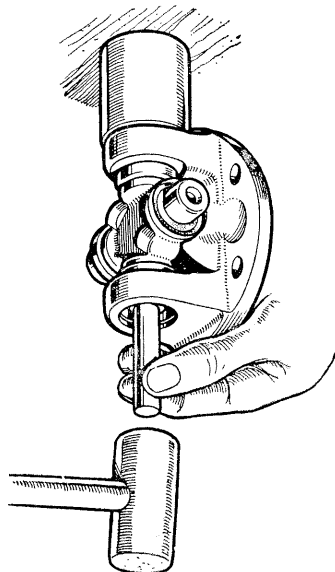

Fig. D-5—Removing the flange yoke
9. Rest the flange yoke on a short piece of tubing of suitable diameter (slightly larger than the bearing race) and drive out the two remaining bearings, using a brass drift. (Fig. D-5.)